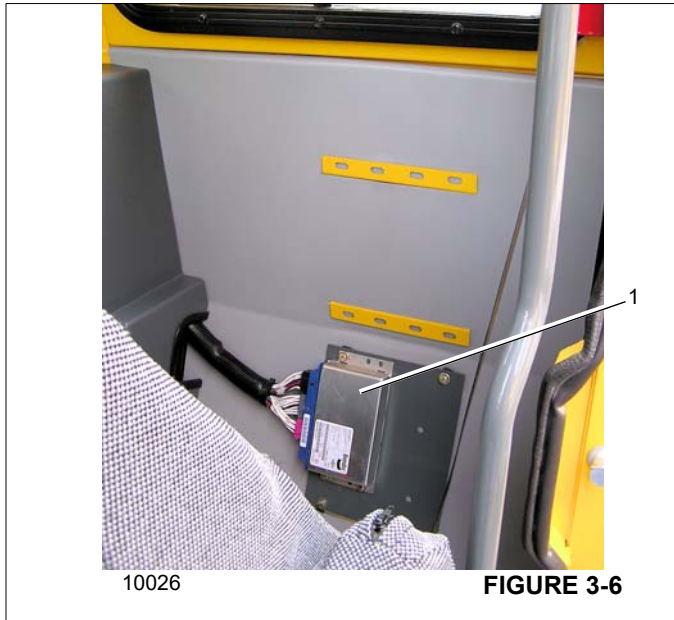

FIGURE 3-6
The ABS ECU (1), (Figure 3-6) is located inside the carrier cab behind the seat. ABS wiring is combined with the main